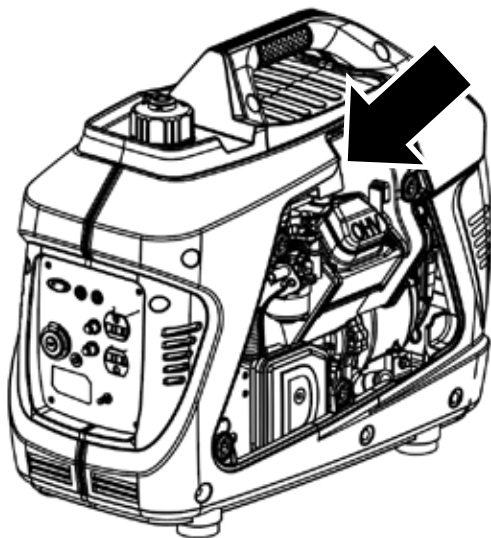

Figure 17: Locate Spark Plug
- 3. Remove the engine service panel by unlocking knob and locate spark plug boot at top of engine (see Figure 17).